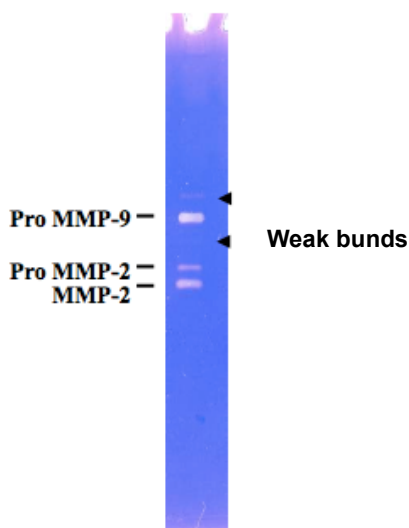

Fig. 1 10ul of MMP markers applied and enzymatic reacted for 24 hrs. at 37°C
5. Apply the samples and MMP markers to gel plate. (Fig.1: 10ul of MMP markers applied and enzymatic reacted for 24 hrs. at 37°C) Run electrophoresis at 15 mA constant current. (If you use 2 gels, set the current at 30 mA)